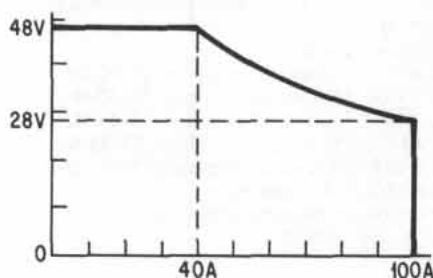

Figure 1.
The 6452A DC power supply is the first of a series which offers a new level of performance in high power direct current applications. New and unique circuit design combines the benefits of 20 kHz switching and SCR control technology to offer high efficiency, light weight, and small size while improving upon the performance specifications generally available at the 2 to 3 kilowatt power level. Output voltages and currents available range from 48 V/40 A to 28 V/100 A (see figure 1). This extended output range provides the user with the higher current often required for low voltage applications while still maintaining the flexibility for higher voltages when required. Typical applications for this power supply are semiconductor burn-in operations, DC magnet power, battery charging or replacement, and large automatic testing systems.
The 6452A offers constant voltage/constant current operating modes. Front panel light emitting diode (LED) indicators display the mode in which the power supply is operating. Additional front panel LED indicators provide visual information on overtemperature, overvoltage, and overrange conditions. The overrange indicator activates when changes in the load or output voltage/current settings cause the power supply to exceed the maximum power available (Figure 1). The overvoltage indicator activates simultaneously with the firing of the internal overvoltage protection circuit. This overvoltage circuit is front panel adjustable from 10% to 110% of rated output voltage.
**DC output:** 0–48 V, 0–100 A, see Figure 1 for maximum power ratings.